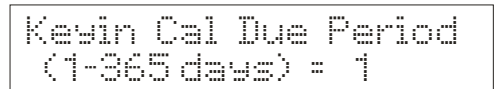

Figure 93
6. If you selected **On** in step 5, the display reads *Key in Cal Due Period (1-365 days) =*. Key number of days using the numeric keypad. If you make a mistake, use the  $\Delta/MI$  or  $\nabla/MR$  keys to highlight mistake, then re-enter. See **Figure 93**.